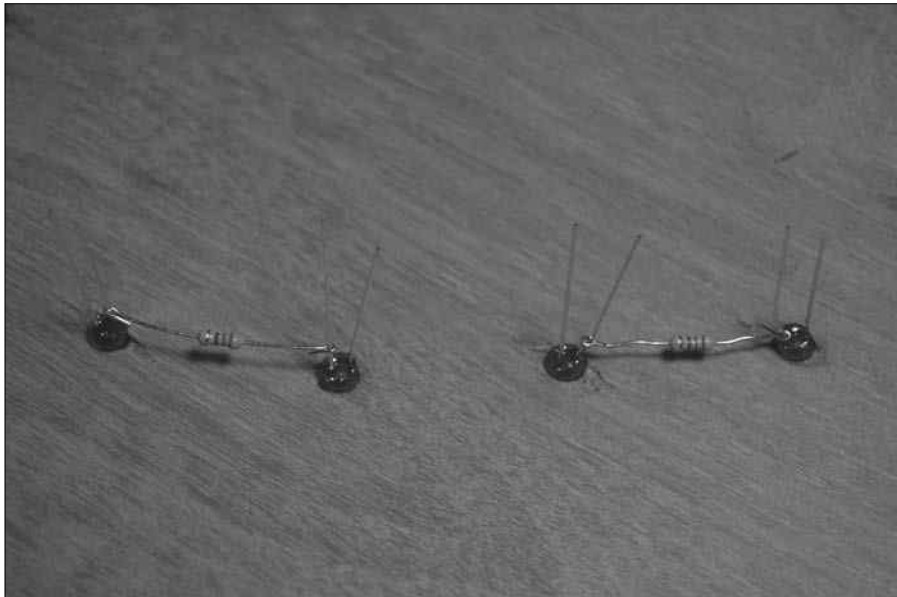

Figure 10-16:
7. Attach resistors between every other LED, as shown in Figure 10-16.